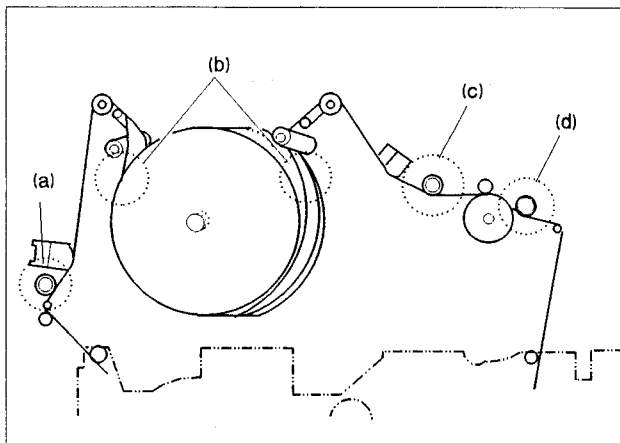

Fig. 2-7-11 Tape transport system
- 2) Confirm absence of curling, wrinkling, slippage, etc at the (a), (b), (c) and (d) portions, as shown in Fig. 2-7-11.